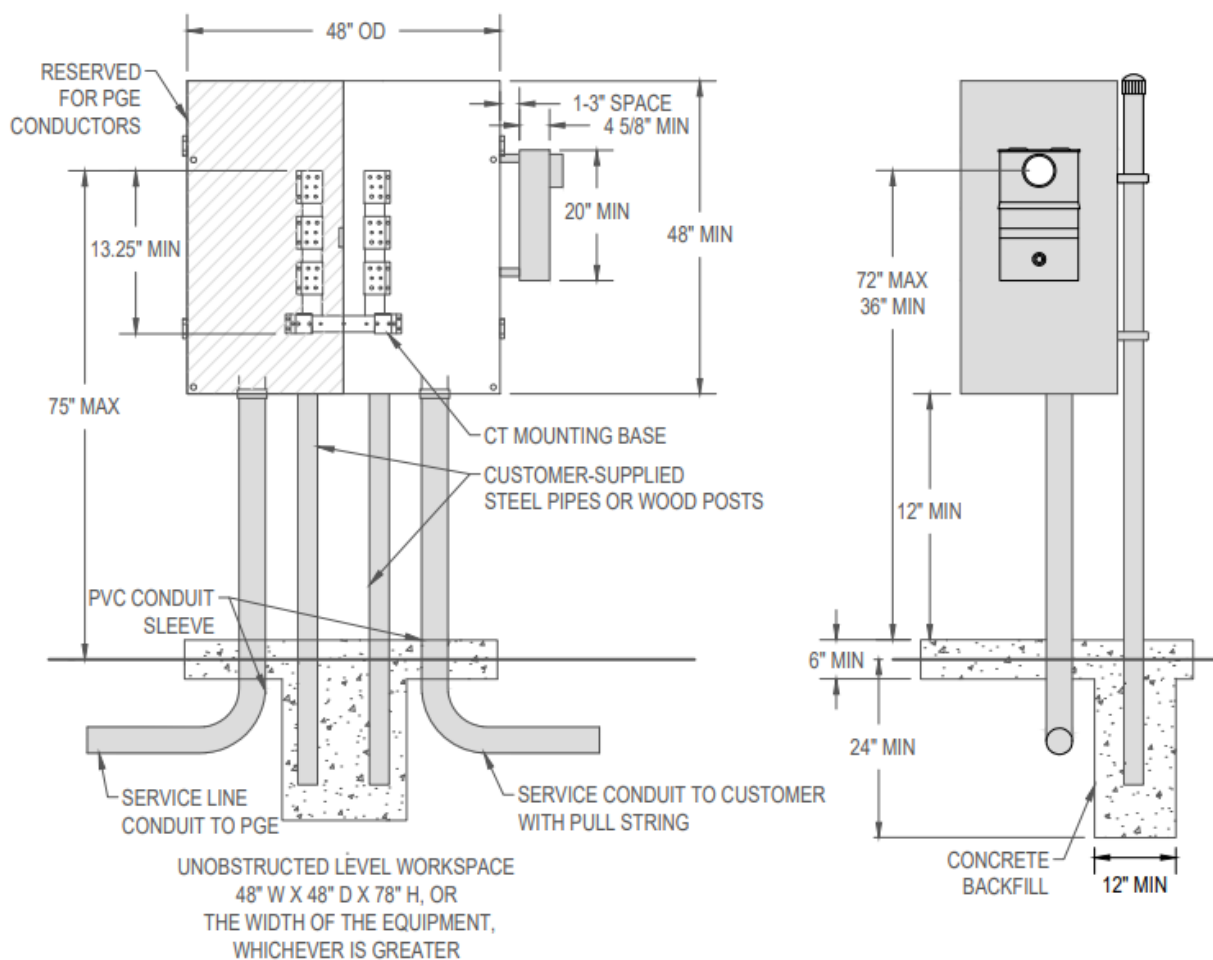

Figure 92. Current Transformer Metering, Post Mounted, 600 V, 800 A Maximum (STD-D-6230)
- The configuration shown in Figure 92 can be used as a wall mount if clearance allows.